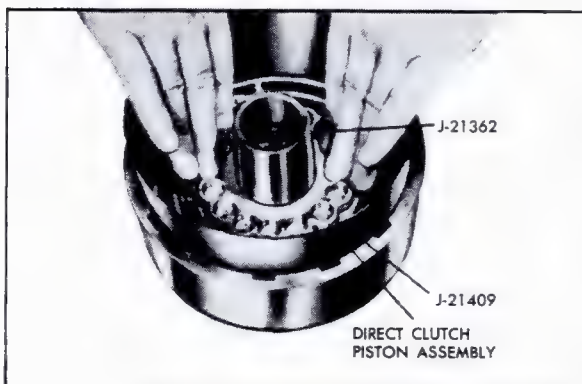

Fig. 7-84 Installing Direct Clutch Piston
3. Place Forward and Direct Clutch Inner Seal Protector, J-21362, over direct clutch hub. Install clutch piston inside Forward and Direct Clutch Piston Installer, J-21409, insert assembly in direct clutch housing, Fig. 7-84, and install clutch piston by rotating it slightly, in a clockwise direction.